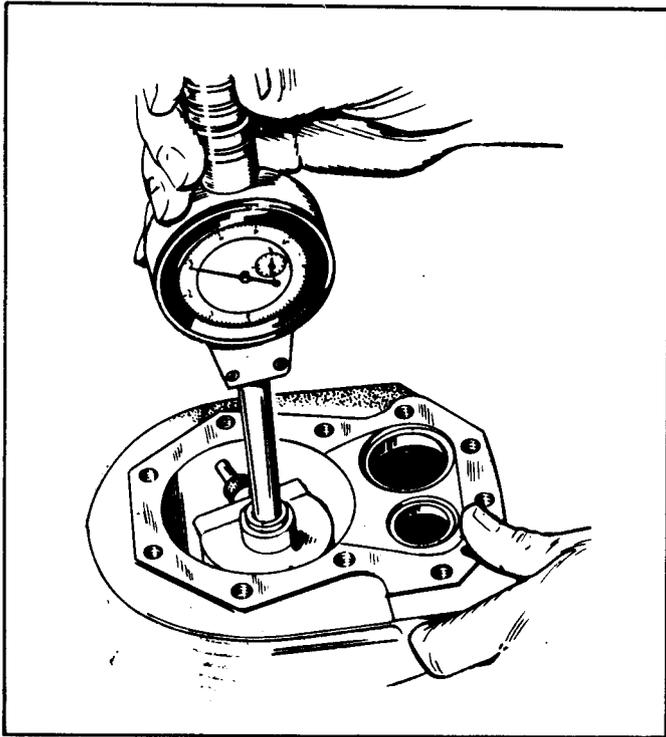

FIGURE 13. METHODS OF MEASURING THE DIAMETER OF A CYLINDER
3. Check the cylinder bore for taper, out of round and wear, with a cylinder bore gauge, telescope gauge or inside micrometer (Figure 13). These measurements should be taken at four places - the top and bottom of piston ring travel.